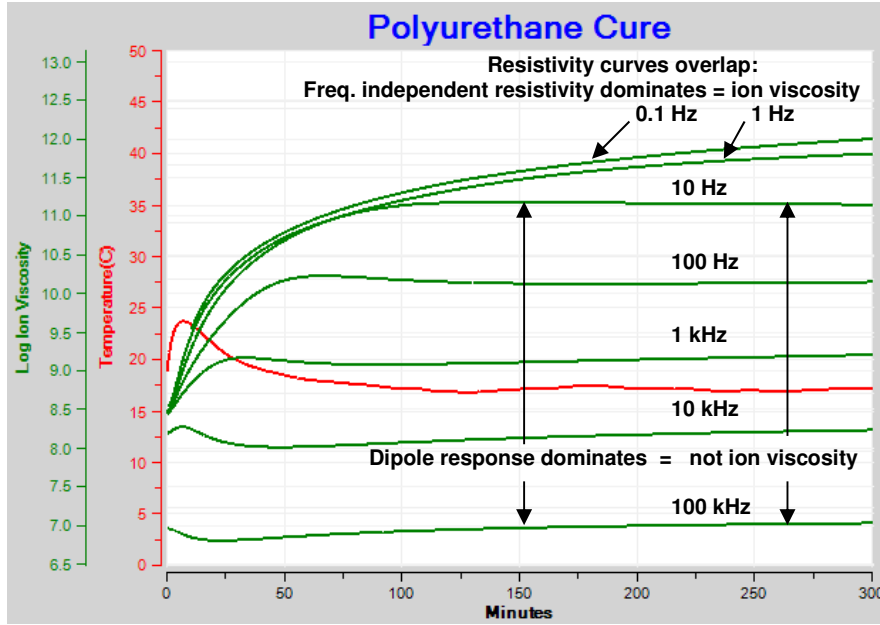

Figure 12-9
- Do look at resistivity from multiple frequencies, as in Figure 12-9, to determine ion viscosity